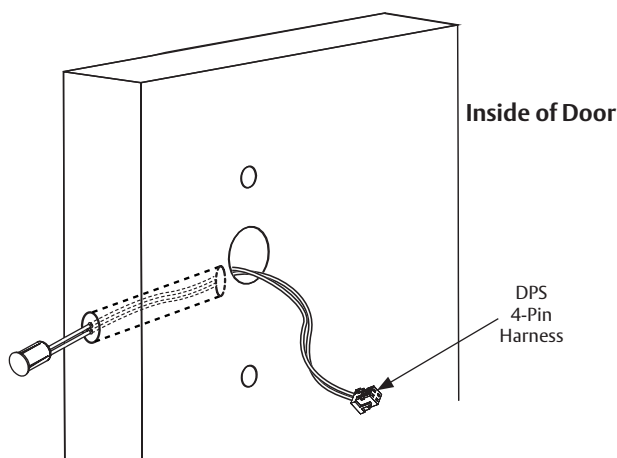

Figure 5-2C
- Push wire harness through raceway toward lock prep (Figure 5-2C)